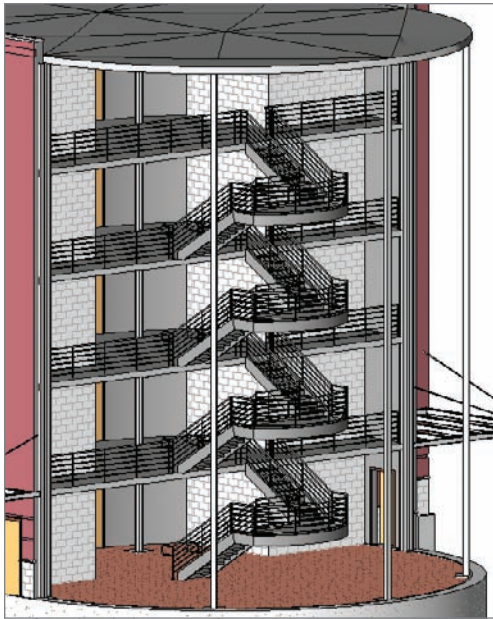

FIGURE 10.32 The entry stairs and railing
13. Check out the model in 3D (see Figure 10.32).